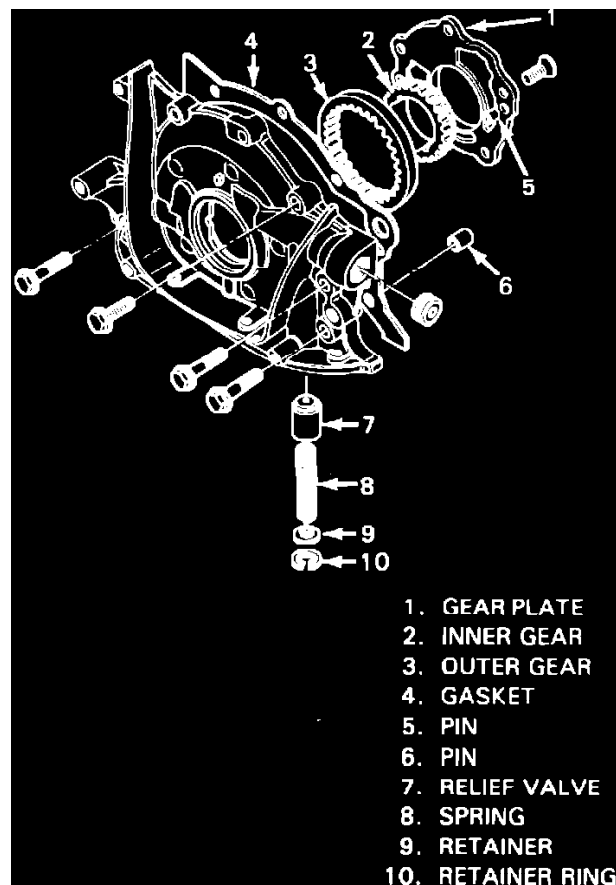

Fig. 28 Oil pump removal 1985-87 Gear Type
7. Remove oil pump bolts and pump, **Fig. 28 and 29.**